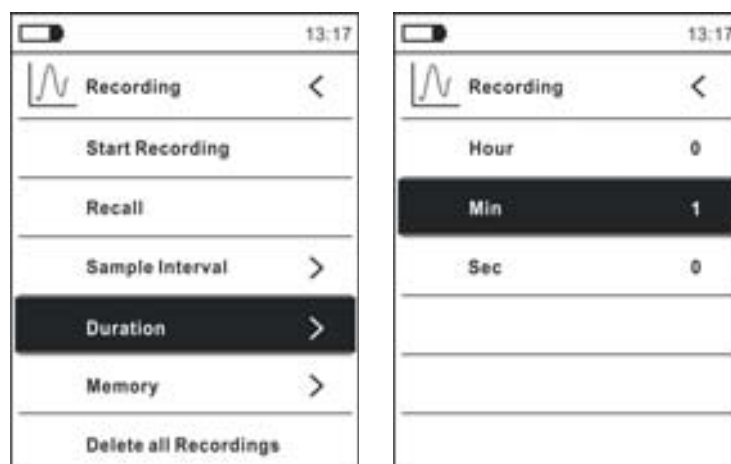

Fig. 36: Data logger function – Setting of recording duration
8. Select item “Duration” (see Fig. 36 – left side) and press key **▶**. The screen in Fig. 36 – right side appears on the display.